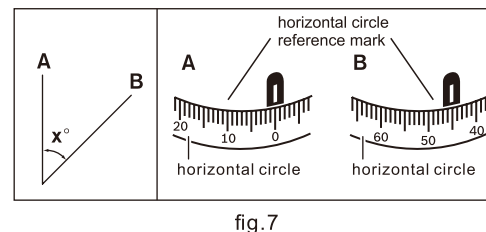

fig.7
- Shoot the instrument toward A, rotate the horizontal circle 2 with "0" point toward the reference mark 3. (see fig.7)